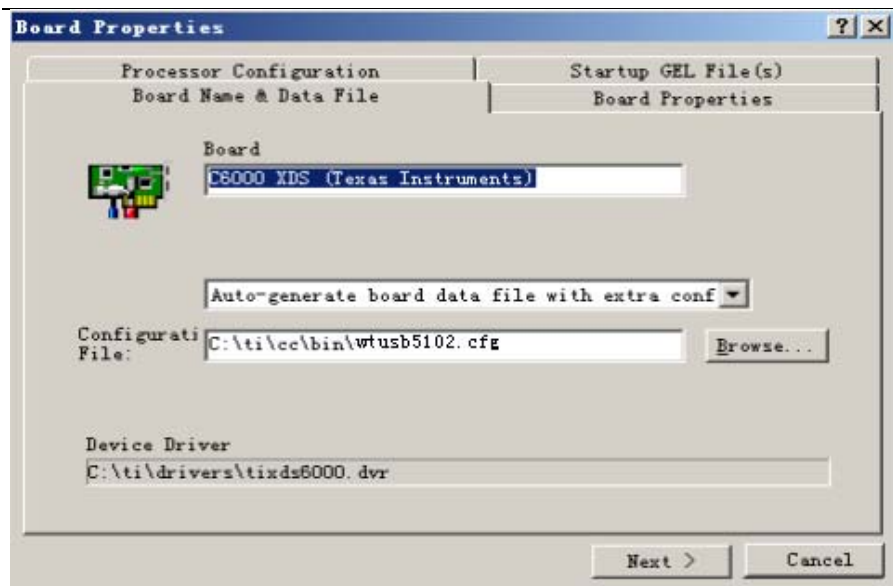

Figure C-3
3. On the “Board Properties” Window, click on “Auto-generate board data file” and change it to “Auto-generate board file with extra configuration file” (see Figure C-3) . Then Click on “Browse” to find the CCS folder (the default path is C:\ti\cc\bin) , choose WT510USB2.CFG and click on “Open”.